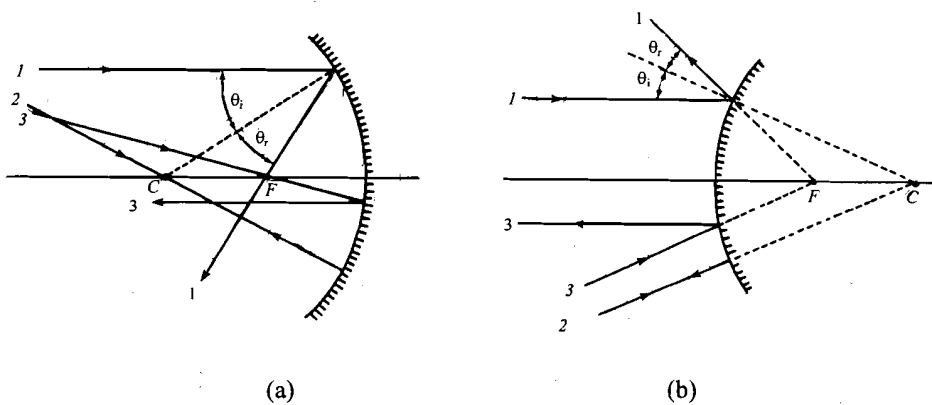

Fig.4.8: Reflection of light by a) a concave mirror; and b) a convex mirror
- it is sufficient to consider only two of the three rays shown in Fig.4.8 to locate the image of the object;